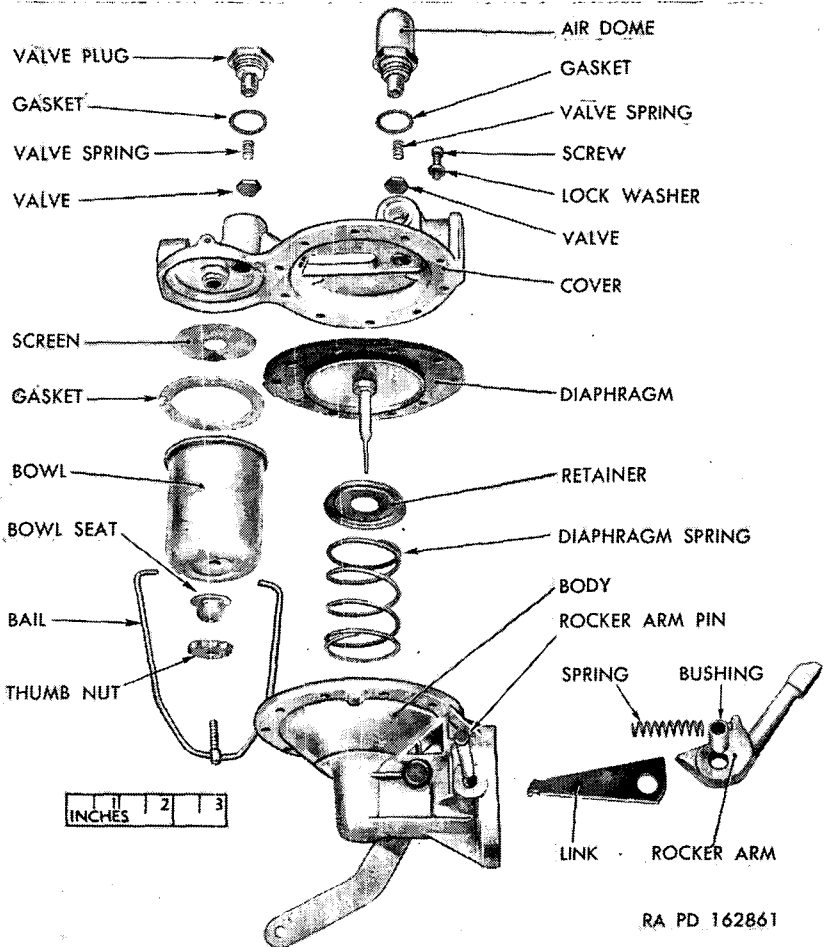

Figure 35. Fuel pump—disassembled (typical series AK construction).
(fig. 35)
a. *Assemble Body* (fig. 35).
- (1) Make an assembly of rocker arm and link with rocker arm bushing. Place rocker arm and link in body with link hook down. Insert rocker arm spring. Aline rocker arm pin bushing hole with hole in body and drive in rocker arm pin. Install washer on small end of pin and spread end of pin.
- (2) Soak diaphragm in clean kerosene. Fuel oil may be used; but do not use shellac or sealing compound. If used, place rubber oil seal over body pull rod well, set the diaphragm spring in position, and slide the diaphragm pull rod into body, hooking link to slot in flattened end.